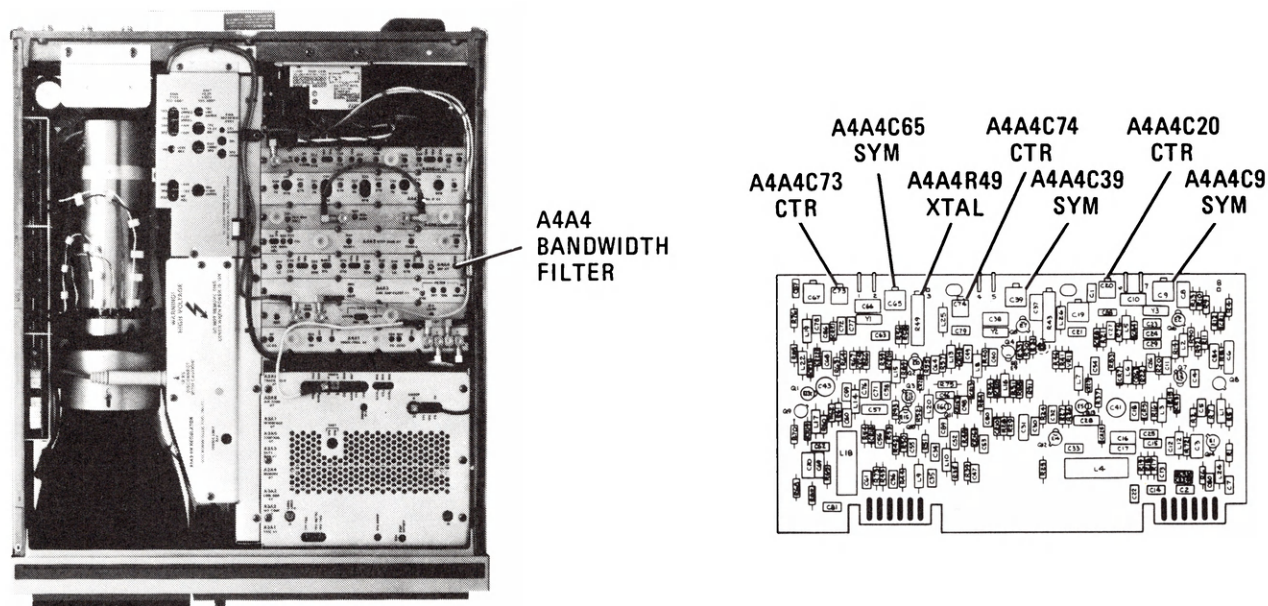

Figure 5-27. Location of A4A4 21.4 MHz Crystal Filter Adjustments
17. Adjust A4A4C20 CTR to center signal on center graticule line. Adjust A4A4C9 SYM for best symmetry of signal. Refer to Figure 5-27 for location of adjustments. If unable to adjust SYM for satisfactory signal symmetry, increase or decrease value of A4A4C10. Refer to Table 5-3 for range of values.
19. Adjust A4A4C74 CTR to center signal on center graticule line. Adjust A4A4C39 SYM for best symmetry of signal. Refer to Figure 5-27 for location of adjustments. If unable to adjust SYM for satisfactory signal symmetry, increase or decrease value of A4A4C38. Refer to Table 5-3 for range of values.
21. Adjust A4A4C73 CTR to center signal on center graticule line. Adjust A4A4C65 SYM for best symmetry of signal. Refer to Figure 5-27 for location of adjustments. If unable to adjust SYM for satisfactory signal symmetry, increase or decrease value of A4A4C66. Refer to Table 5-3 for range of values.
25. Adjust A4A4R49 XTAL to align markers on display. MARKER Δ level should indicate 1.00 X. Refer to Figure 5-27 for location of adjustment.